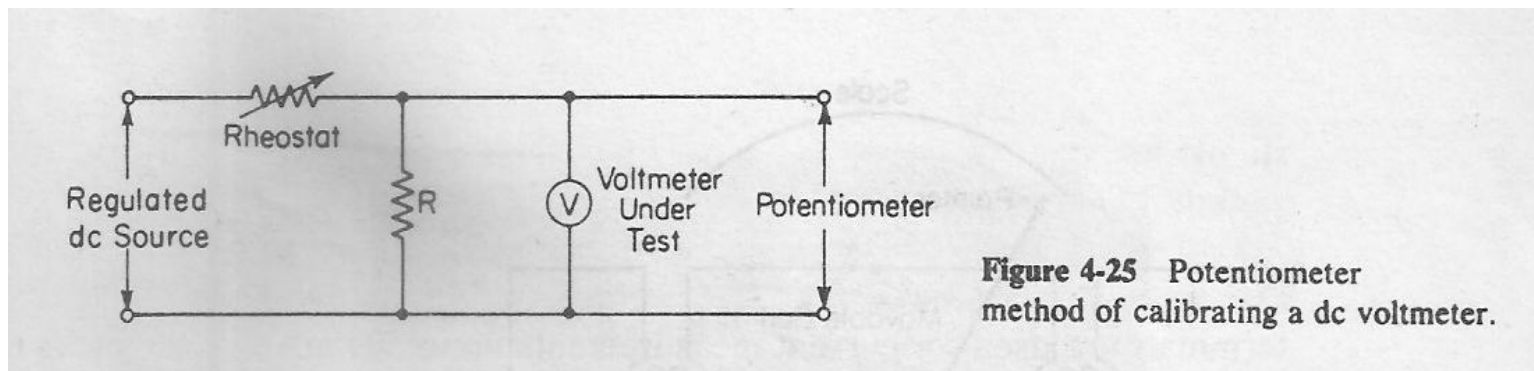

Figure 4-25 Potentiometer method of calibrating a dc voltmeter.
- A simple method of calibrating a dc voltmeter is shown in Fig. 4-25, where the voltage across dropping resistor R is accurately measured with a potentiometer.
- Voltmeters tested with the method of Fig. 4-25 can be calibrated with an accuracy of ± 0.01 percent, which is well beyond the usual accuracy of a d'Arsonval movement.